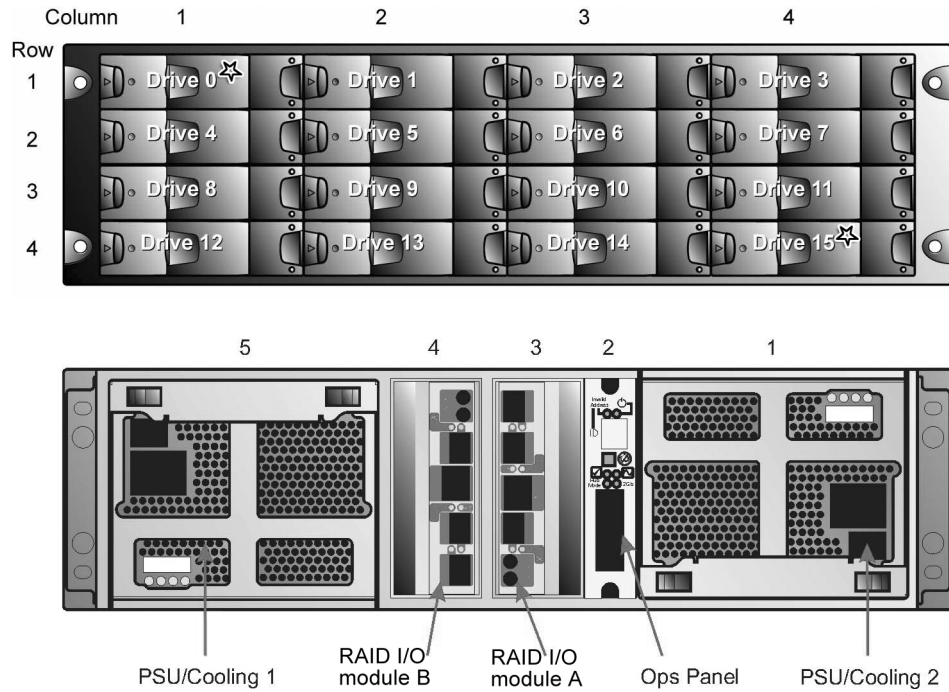
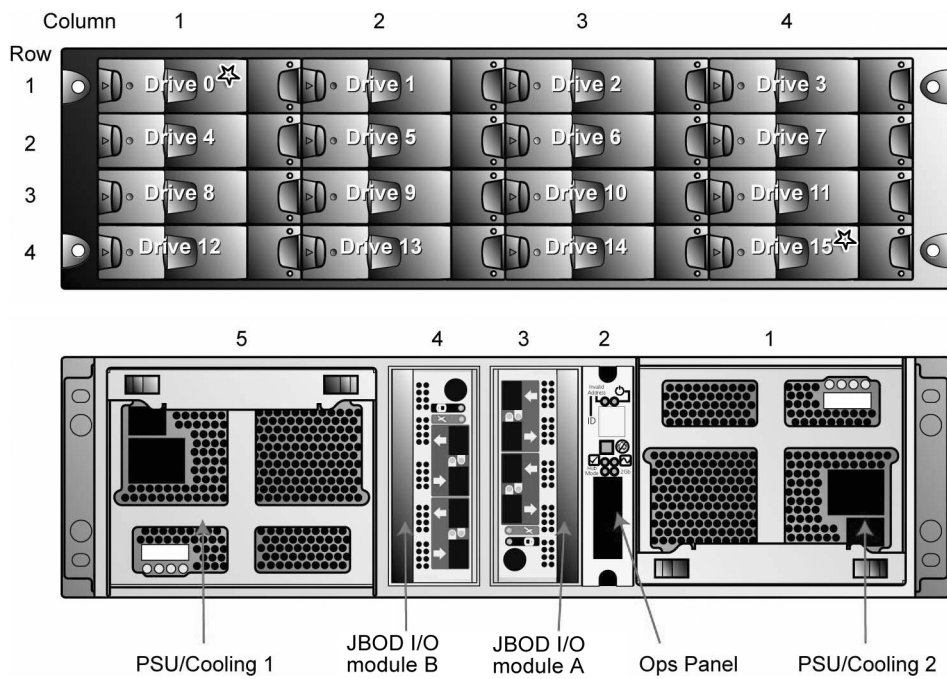

Figure 2-1 Altos S205F Module locations * SES Drives (there must be a drive present in Bay 1/1 or 4/4 to enable SES communications to operates).
Figure 2-2 Altos S200F Module locations * SES Drives (there must be a drive present in Bay 1/1 or 4/4 to enable SES communications to operates).
Before you begin installation you should become familiar with the configuration requirements of your Altos S205F / S200F Storage System. The correct positions of each of the optional plug-in modules are shown in Figure 2-1 and Figure 2-2. Please refer to sections 2.5 - 2.7 for details of I/O module configurations and installation.
The enclosure bay numbering convention is shown in Figure 2-1. A Bay is defined as the space required to house a single 1.0" high 3.5 inch disk drive in its carrier module. e.g. a 1 x 4 bay module would take the space of 1 drive width by 4 drive bays high (in the rack mount configuration).
- 1 The modules should be installed in rear bays 3 and 4 of the Enclosure (Figure 2-1, Figure 2-2).